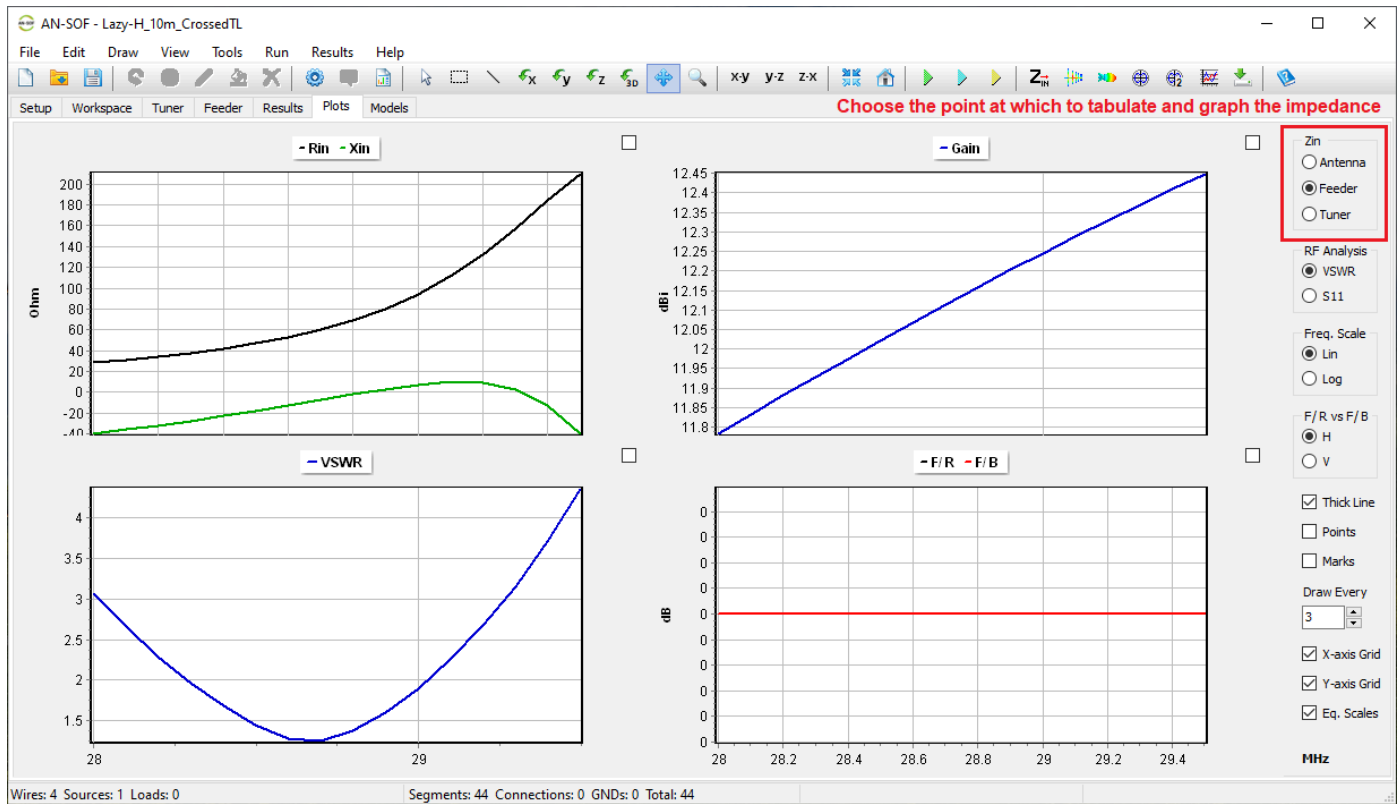

Fig. 2: Plots tab in the main window, showing the Antenna, Feeder, and Tuner options in the Zin box for selecting the point to tabulate and graph impedance.
- Navigate to the **Plots tab** > “**Z_{in}**” box (see Fig. 2) and choose between **Antenna**, **Feeder**, or **Tuner**.